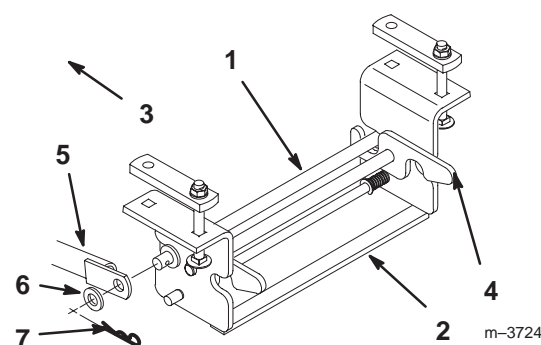

Figure 21
12. Open the latches on the rear Attach-A-Matic™ hitch. Put the support rod link into the front notches on the rear Attach-A-Matic™ hitch and close the latches to secure it in place (Fig. 21).
- Secure the braces to the rod with a 13/16" (21 mm) washer and a large hairpin cotter (Fig. 21).